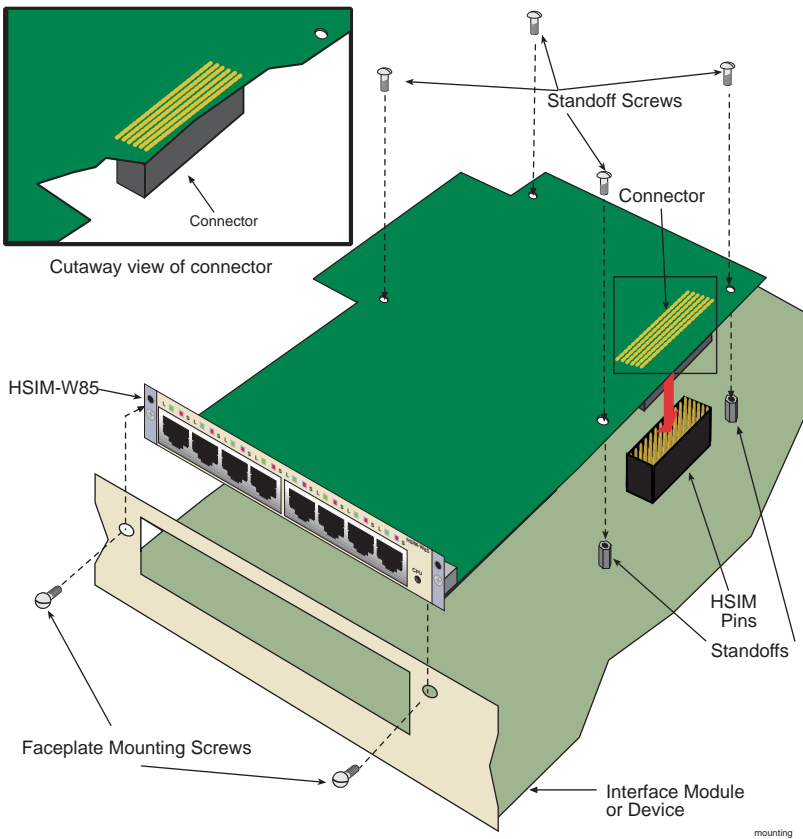

Figure 2-2 Installing the HSIM-W85
6. Refer to Figure 2-2 and place the HSIM-W85 behind the module faceplate.
6. Refer back to Figure 2-2 and place the HSIM-W85 behind the standalone device faceplate.